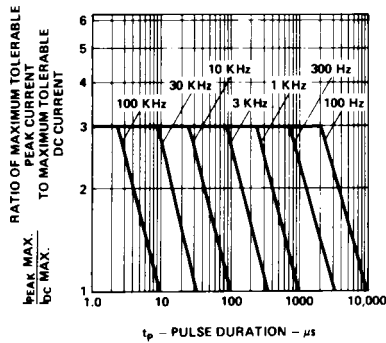

Figure 5. Maximum Tolerable Peak Current vs. Pulse Duration. ( $I_{DC}$  MAX as per MAX Ratings).
1. See Figure 5 (Red/Orange), 10 (Yellow), or 15 (Green) to establish pulsed operating conditions.